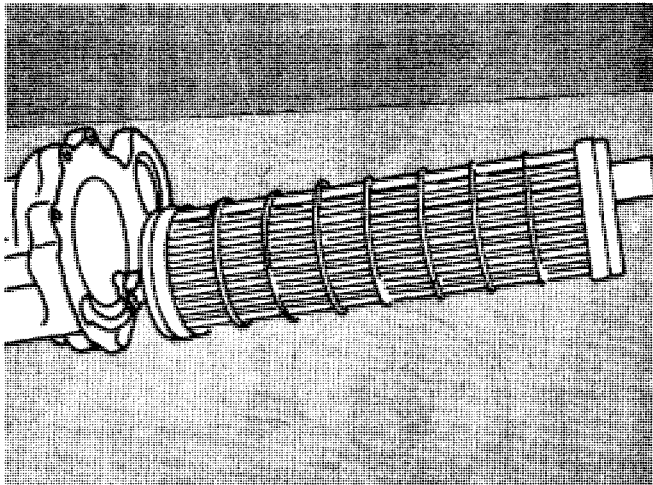

Fig. 7-30. Remove The Element From The Housing.
5. Push the element through the housing, toward the thermostat end of the housing. Remove the element, Fig. 7-30.